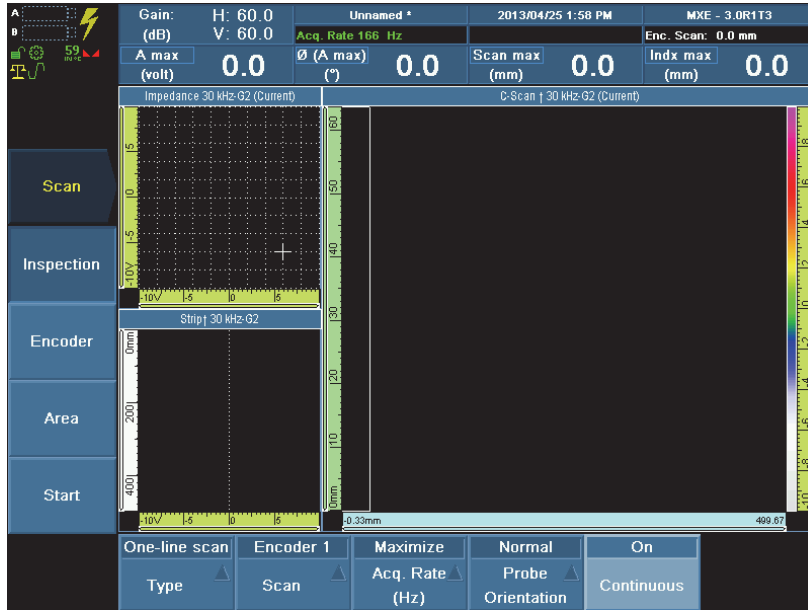

Figure 9-7 Setting the probe encoder to Continuous mode
- Set the encoder to Continuous mode. Select **Scan > Inspection > Continuous = On**, and then press the Accept key to confirm (see Figure 9-7 on page 149).